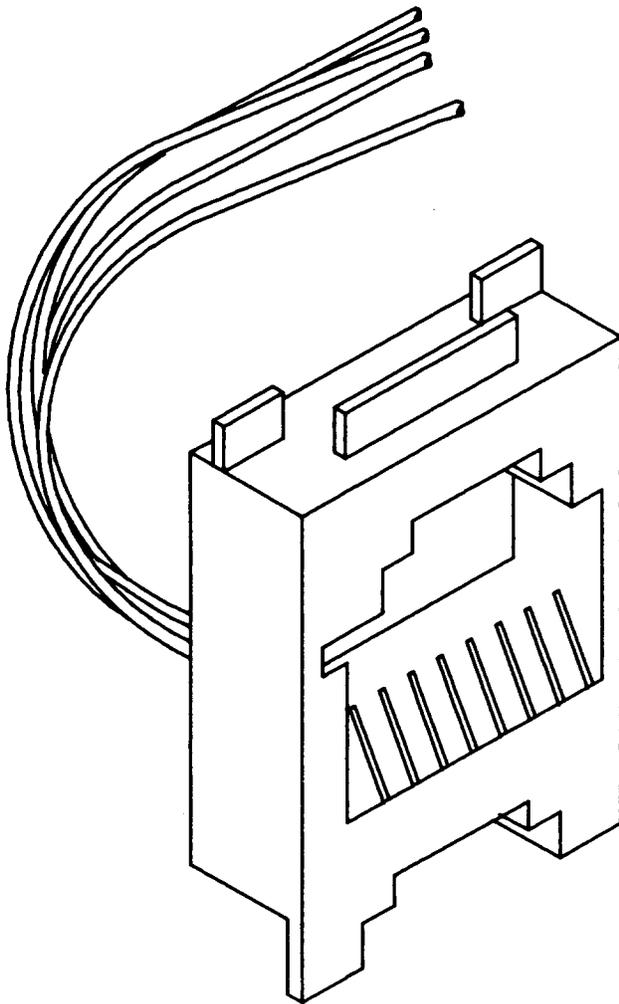

Fig. 11—641-Type Jack
2.11 641A, B, C, D, and AW: The 641-type jacks (Fig. 11) have an 8-conductor spring block assembly used with modular telephone sets. The jacks consist of a gray thermoplastic base with spade-tipped leads and will accept a D8W plug.